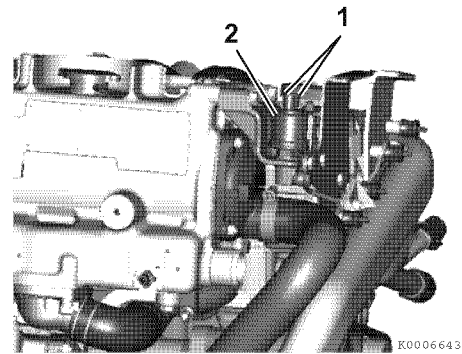

Figure 12-36
1. Disconnect wires (1, **Figure 12-36**).
2. Remove oil pressure sensor (2, **Figure 12-36**) from heat exchanger bracket.